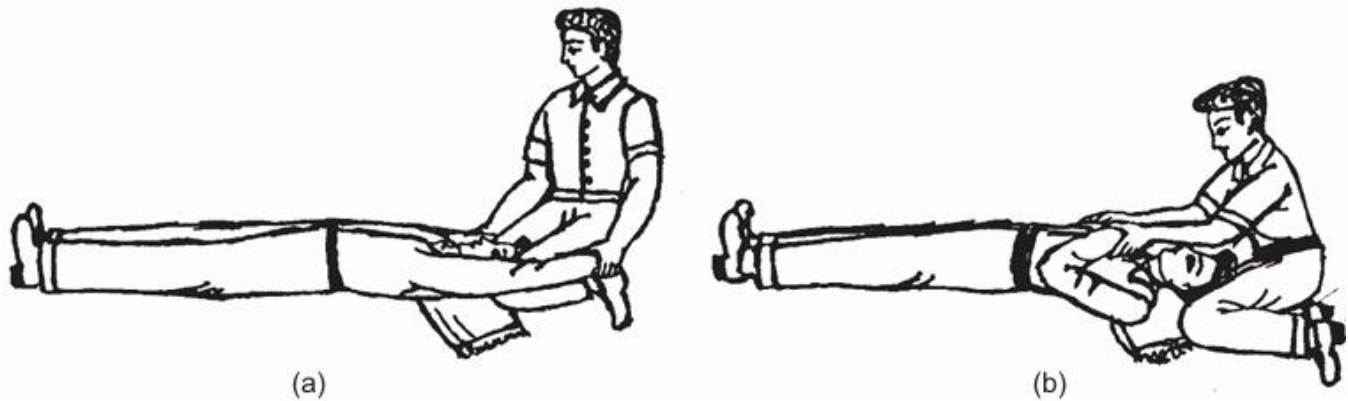

Fig. 1.2 Silvestre's method of artificial respiration (a) Lay the victim on back (b) Kneeling near the victim's head
- 1) Lay the victim on his back, as shown in Figure 1.2(a).
- 6) Now kneel in the position near the head of the victim as shown in Figure 1.2(b).
- 9) Now bring the arms of the victim on each side of his chest as shown in figure 1.2 (b), so as to compress his chest. Keep the victim's arms in the same position also for 2 to 3 seconds.